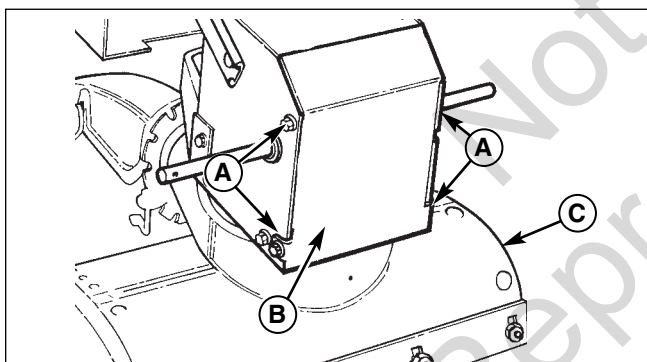

Figure 22. Bottom Cover
4. Stand snowthrower on the front of the auger housing (C, Figure 22).
5. Remove the capscrews (A) on each side of the bottom panel (B).
6. Remove the bottom panel (B).
12. Install the bottom panel (B, Figure 22) and tighten the capscrews (A).